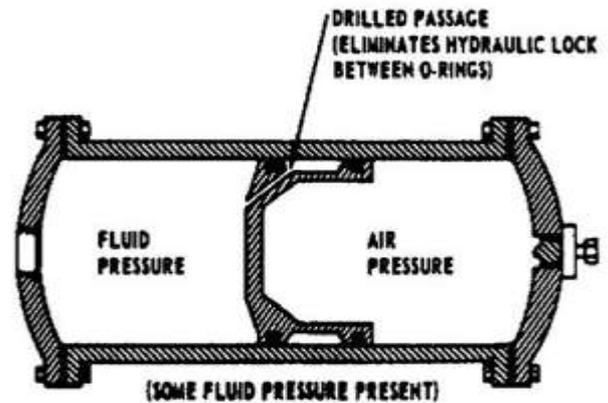

Figure 5
c. Piston-Type Accumulator. This accumulator consists of a cylinder assembly, a piston assembly, and two end-cap assemblies. The cylinder assembly houses a piston assembly and incorporates provisions for securing the end-cap assemblies. An accumulator contains a free-floating piston with liquid on one side of the piston and precharged air or nitrogen on the other side Figure 5. An increase of liquid volume decreases the gas volume and increases gas pressure, which provides a work potential when the liquid is allowed to discharge. The piston accumulator serves the same purpose and operates by the same principles as do the diaphragm and bladder accumulators. As fluid pressure from the system enters the left port, forcing the piston down against the initial air charge in the right chamber of the cylinder. A high-pressure air valve is located at the right port for charging the unit. A drilled passage from the fluid side of the piston to the outside of the piston provides lubrication between the cylinder walls and the piston.